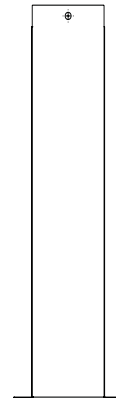

Figure 28
8. The brackets have a perforation at the bottom of each side. Bend them at the perforation. See Figure 28.